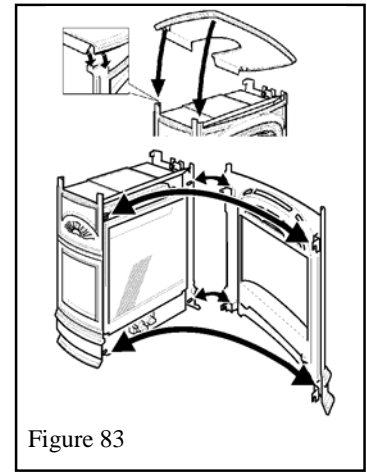

Figure 83
- **President FS:** Remove top & unhook front unit – See figure 83